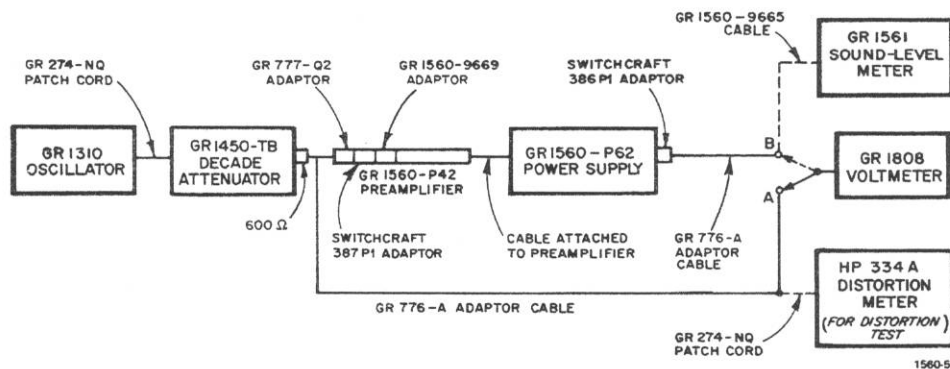

Figure 4-13. Test setup for minimum-performance checks.
**Gain Check (X1).** Make the setup shown in Figure 4-13. The 1808 Voltmeter is to be connected alternately at the output of the 1450-TB Decade Attenuator (connection A in the diagram) and the output of the 1560-P62 Power Supply (connection B).
**Gain Check (X10).** Change the above settings of Figure 4-13 as follows:
**Frequency Check.** Using either the 1808 Voltmeter or the Ballantine 316 Voltmeter in the setup of Figure 4-13, make the frequency measurements indicated in Table 4-5. In each case, perform step A with the voltmeter at point A, then step B, voltmeter at point B.
**Noise Check.** In the setup of Figure 4-13, connect the 1808 Voltmeter to point A and the 1561 Sound-Level Meter to point B (the output from the 1560-P62 Power Supply); use the GR 1560-9665 cable. The procedure is given below.
**Distortion Check.** Make the setup of Figure 4-13. Connect the 334A Distortion Meter to point B.